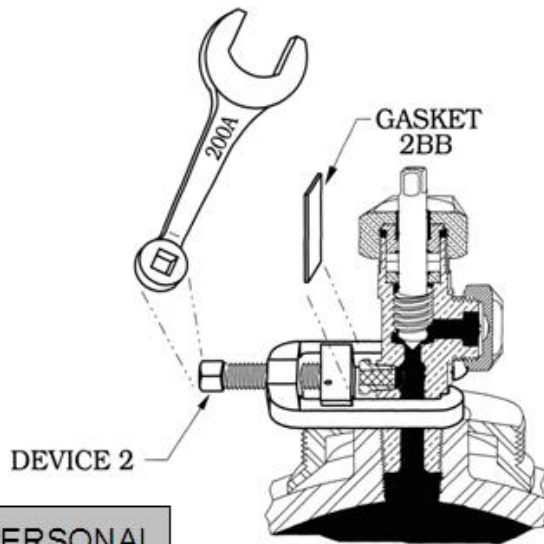

Fig 3.8.1
- B) Saw off fusible plug flush with valve body, file the surface smooth and apply DEVICE 2 (Clamp Assembly, Fig 3.8.1) (See Section 5 for instructions).
ACTION: Apply DEVICE 2 (Clamp Assembly, Fig 3.8.1) (See Section 5 for instructions).